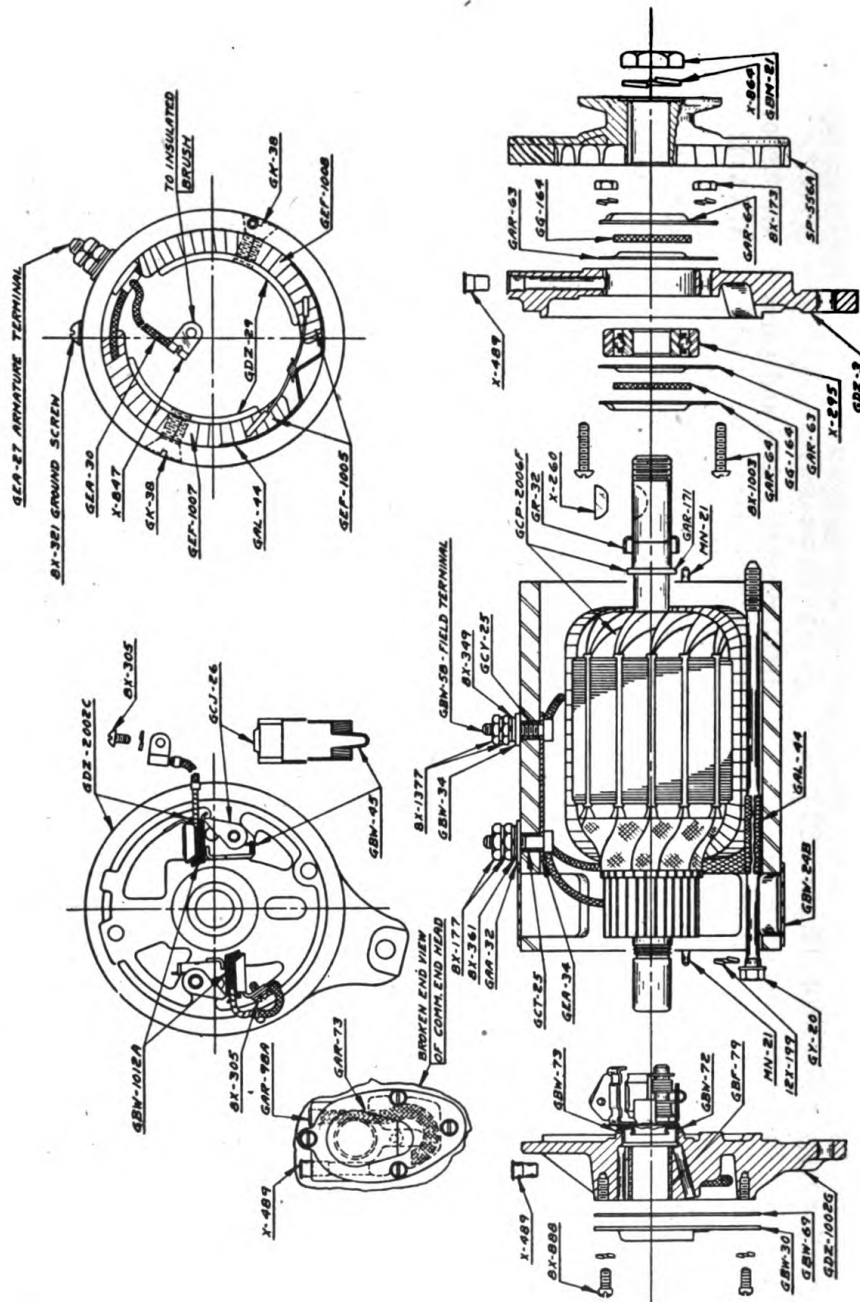

Figure 21.—Low voltage charging generator
9. Low voltage charging generator (figure 21).—